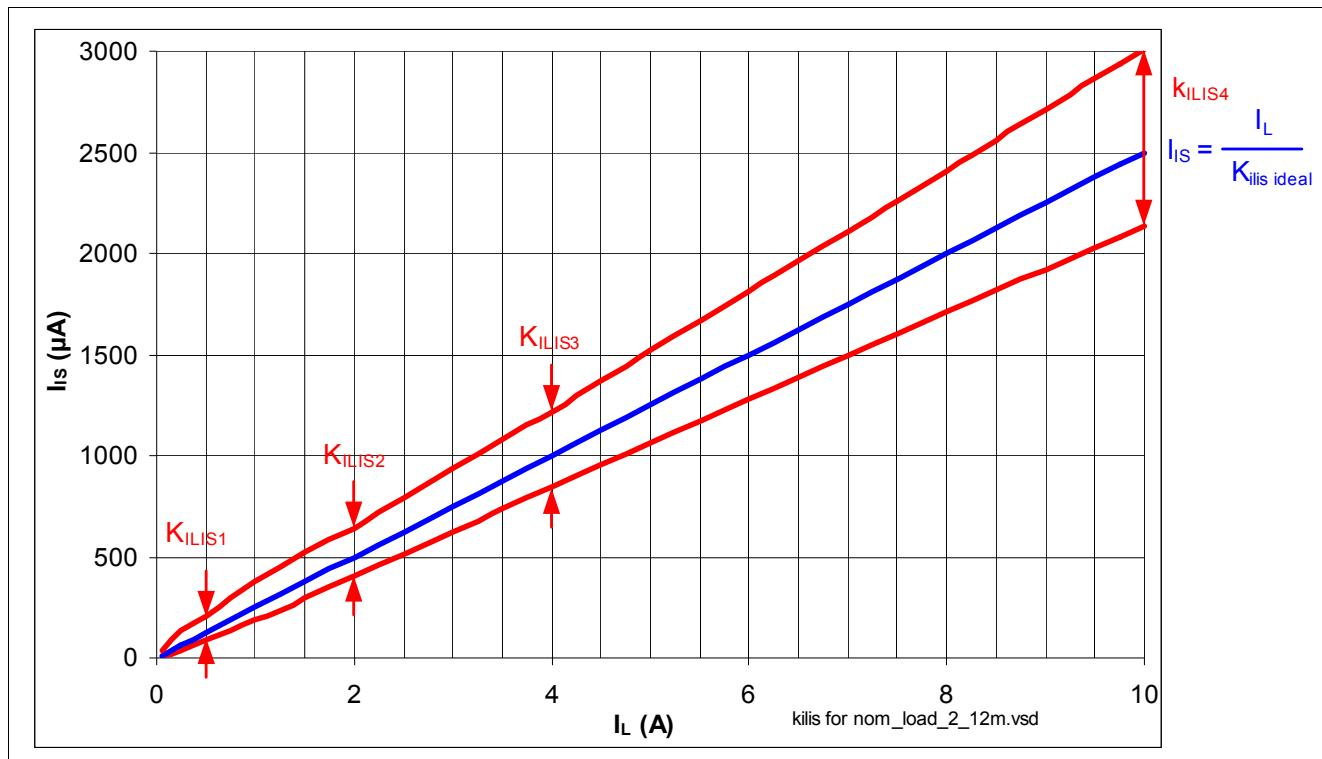

Figure 21 Current Sense for Nominal Load
**Figure 21** and **Figure 22** show the current sense as a function of the load current in the power DMOS. Usually, a pull-down resistor  $R_{IS}$  is connected to the current sense IS pin. This resistor has to be higher than  $560\ \Omega$  to limit the power losses in the sense circuitry. A typical value is  $1.2\ k\Omega$ . The blue curve represents the ideal sense current, assuming an ideal  $k_{ILIS}$  factor value. The red curves show the accuracy the device provide across full temperature range, at a defined current.